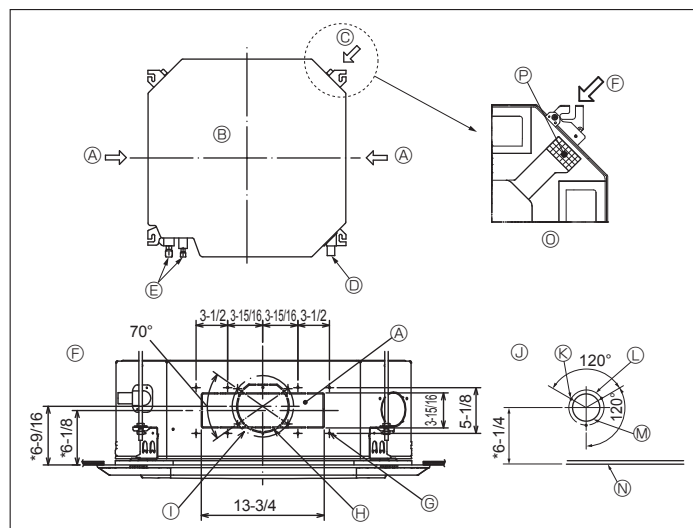

Fig. 3-4
3.4. Branch duct hole and fresh air intake hole (Fig. 3-4)
At the time of installation, use the duct holes (cut out) located at the positions shown in Fig. 3-4, as and when required.